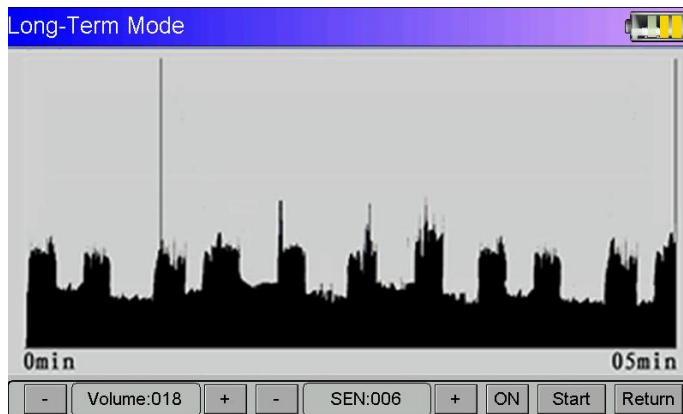
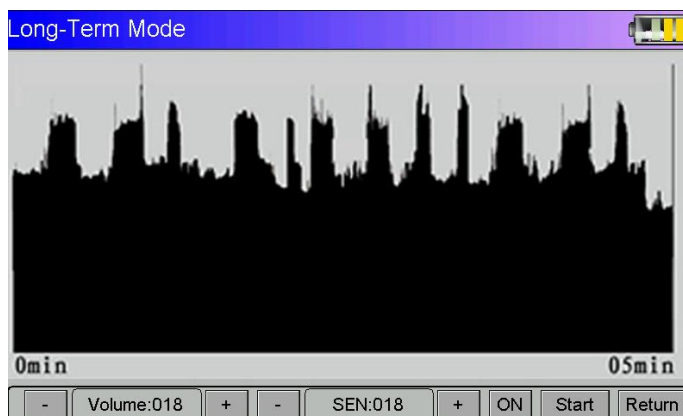

Figure 5
Figure 6
- Intermittent increase and decrease in water pipes and a larger amplitude: whether to raise or lower the sensitivity, the recess amplitude of increase and decrease is not big, can judge where no leaking. ( See Figure 5 , Figure 6 )